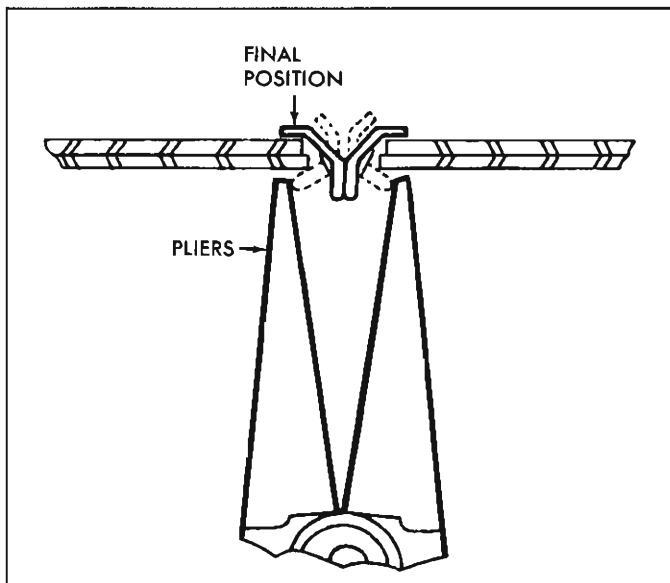

Fig. 99—Special Clip
3. Center face panel may be separated from reinforcements by removal of special clips shown in Figure 99.